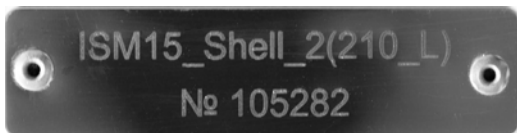
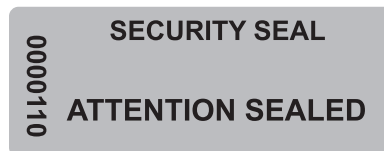

Figure 2
Figure 3
- damage to the seals (Figure 3, Figure 7).
The ISM shall have undamaged warranty seals (appearance of seal is shown in Figure 3, its placement on the ISM (there are two warranty seals on each side of the ISM metal frame) - in Figure 4). The ISM designation and serial number shall comply with data in the VCB packing list and the ISM routine test certificate (appearance of serial number plate is shown in Figure 2, its placement on ISM - in Figure 4).